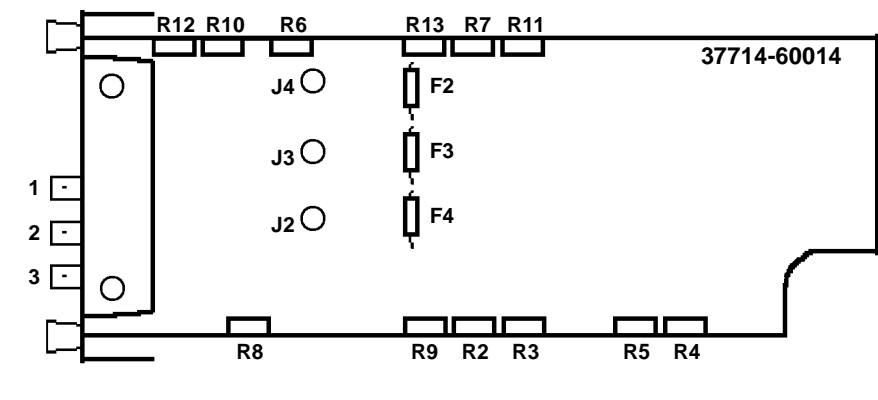

Figure 3-26 Multiple Outputs Assembly Adjustable Components
- 6 Adjust the negative pulse amplitude to -1.00 V  $\pm 0.01$  V using R50. See Page 3-78 Figure 3-26, "Ternary Pulse Amplitude," for expected result.